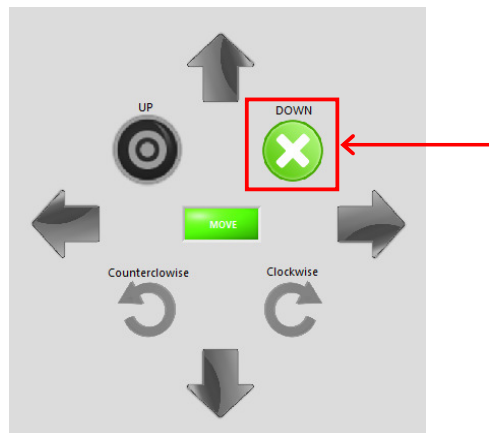

Figure 26a: Moving the probe to touch the top surface of the magnet
- 16) Drive the probe toward the magnet surface using the "Down" arrow (Figure 26a). When you come near to the magnet surface use step by step moving. To do so, use the "Move for" button. Before that, insert zero value in the X and Y control and value -0.005 in the Z control. Value of 5um (0.005mm) is the smallest step that the probe can move for. Minus sign for Z axis drive the probe toward the surface, while the plus sign move the probe away from the magnet surface (Figures 26a and 26b).